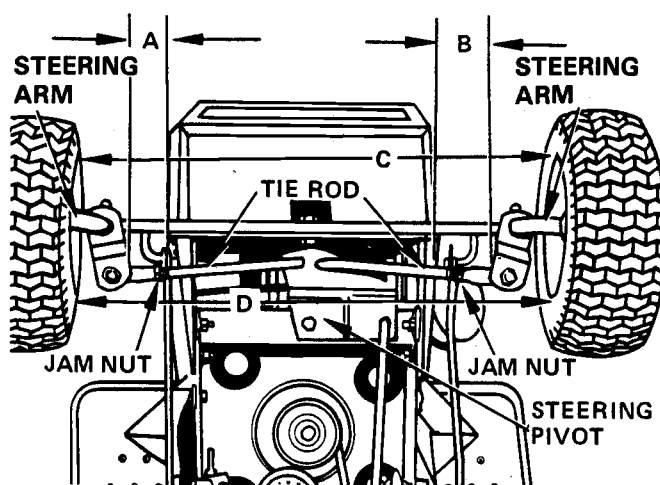

FIGURE 6
FRONT WHEEL TOE-IN ADJUSTMENT — FIGURE 6
1. Turn steering wheel until the rear edge of the steering pivot is perpendicular (90 degrees) to the tractor frame as shown in Figure 6.
1. Loosen jam nuts on ends of tie rods, Figure 6.
2. Remove the locknuts and pull out the ball joints. Rotate tie rods until distances A and B, Figure 6, are equal and distance C is $\frac{1}{8}$ " to $\frac{1}{4}$ " less than D.